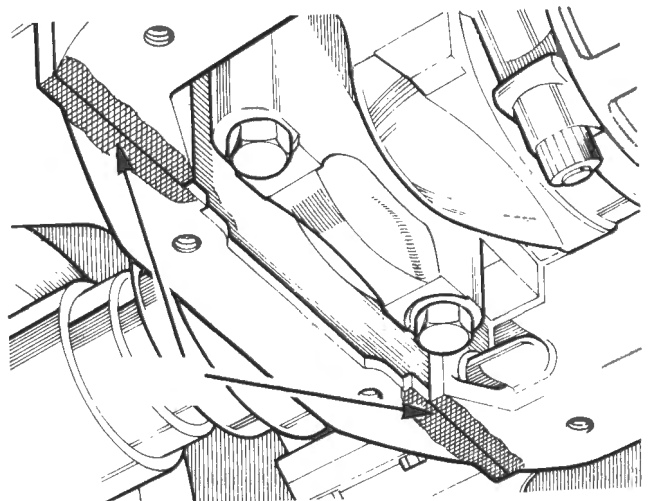

Fig. D-25
- (a) Apply jointing compound to the timing case to crankcase joint as shown in Fig. D-25.